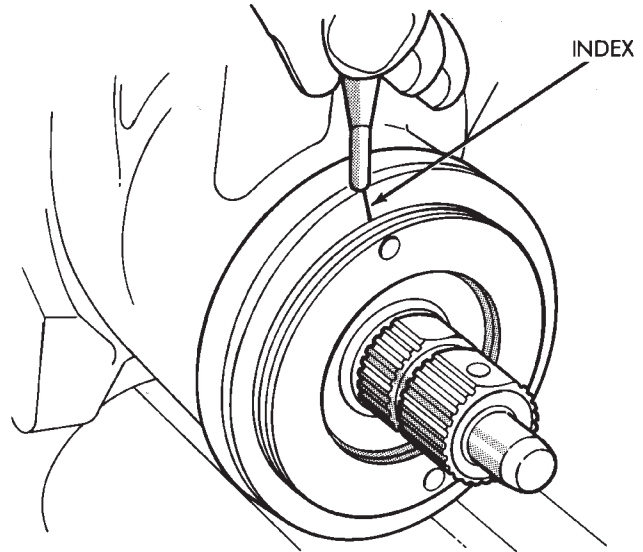

Fig. 25 Alignment Marking On Housing
- (4) Turn the adjuster in with Spanner Wrench C-4381. Tighten the plug and thrust bearing in the housing until firmly bottomed in housing.
- (5) Place an index mark on the housing even with one of the holes in adjuster plug (Fig. 25).